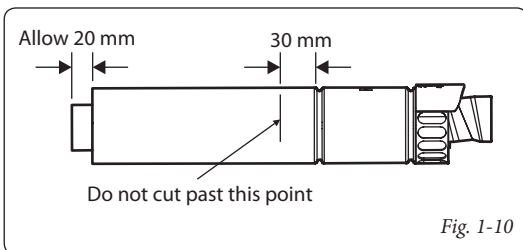

Fig. 1-10
1.7 REDUCING THE FLUE - FIG. 1-10
When the flue length required is less than the minimum stated in Section 1.6, paragraph 1, refer to Fig. 1-10.